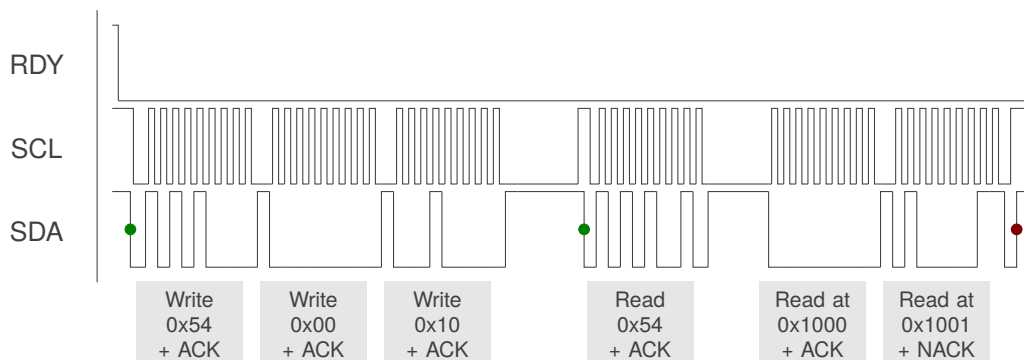

Figure 10.1: I²C Read Example — Read Status Registers 0x1000 and 0x1001
A typical read operation is displayed in Figure 10.1. The master device waits for the RDY line of the IQS325 to go low, indicating the availability of new data and an available communication window. Once the RDY interrupt is triggered, the master initiates communication by sending a start condition followed by the device address and a write command. The IQS325 responds with an acknowledgement, after which the master device will transmit two bytes defining the register address. The master then sends a repeated start condition, followed by the device address with a read command. The IQS325 transmits data from the requested address and will continue to do so while the master acknowledges each byte. The read operation is ended when the master does not acknowledge the last byte received and produces a stop condition.
- > Read the *Power Settings* Registers (0x100A) as illustrated in Figure 10.1.
With the *I²C Stop Ends Comms Window* setting enabled in the *I²C Settings* register, a standard I²C STOP ends the current communication window. If multiple I²C transactions need to be done, then they should be strung together using repeated-start conditions instead of giving a STOP. Allowing an I²C STOP to terminate the communication window is the recommended method, as illustrated in Figures 10.1 and 10.2.